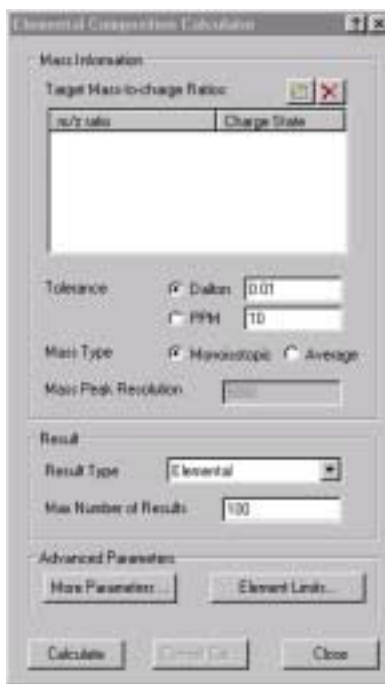

Figure 6-1 Elemental Composition Calculator Dialog Box
The Elemental Composition Calculator dialog box (Figure 6-1) is displayed.
1. Click the limits button displayed for the selected result type in the Elemental Composition Calculator dialog box (see Figure 6-1 on page 6-3).